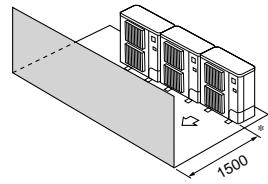

Fig. 2-11
③ Obstacles at front only (Fig. 2-11)